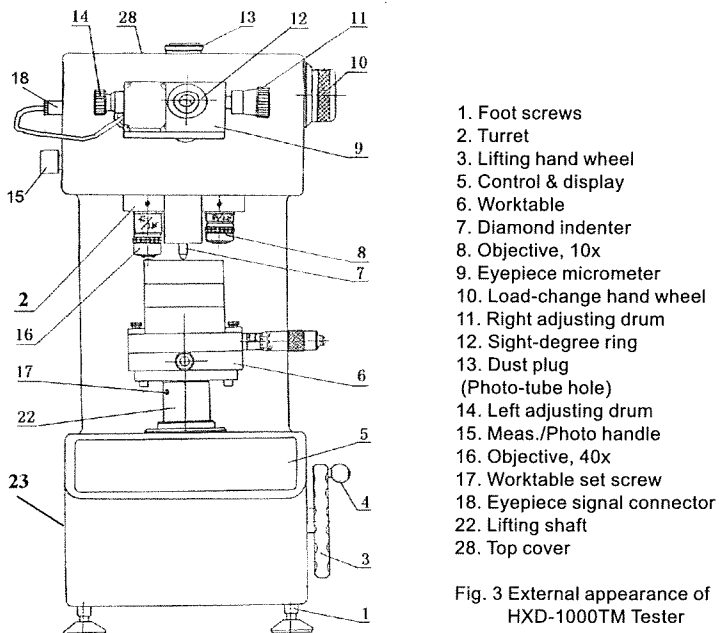

Fig. 3 External appearance of HXD-1000TM Tester
- 2.2 Refer to Fig. 3. Unscrew the dust plug (13) at the tester's top and take down the top cover (28).
Refer to Fig. 3.
If the lines in the eyepiece are not distinct enough, the sight-degree ring (12) should be adjusted (see Figs.3 and 4). The focussing at specimen should be made after the best resolution of the lines has been obtained in the field of vision.